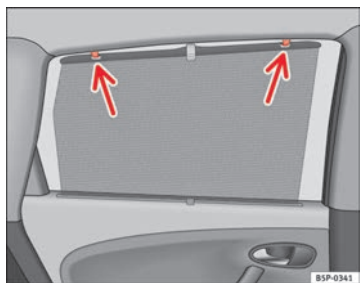

Fig. 83 Rear door sun visor
- Pull out the visor and hook it onto the hooks at the top of the door frame ⇒ fig. 83.